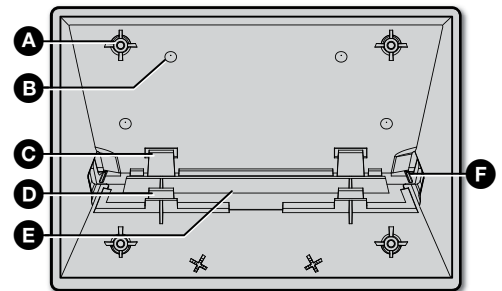
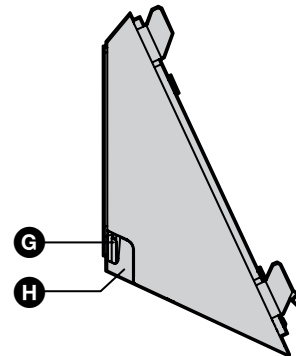

Figure 1. AMK Enclosure (front view)
Figure 2. AMK Enclosure (side view)
- (1) plastic enclosure (AMK 1, AMK 2, or AMK 3; see figure 1) with an adhesive patch attached to the back. The enclosure ships with a metal plate attached to the mounting posts (see figure 1, **A**).
To run cables to the back of the touchpanel, remove the cable access cover (see figure 1, **E**) by releasing the catches (**D**) and pulling the cover away.
There is a slot on either side of the cover (see figure 2, **G**) that can accommodate the flat Ethernet cable. If you are using a larger cable, cut away the plastic tabs (**H**) from the sides of the cover using a sharp knife along the groove in the plastic (see figure 1, **F**).